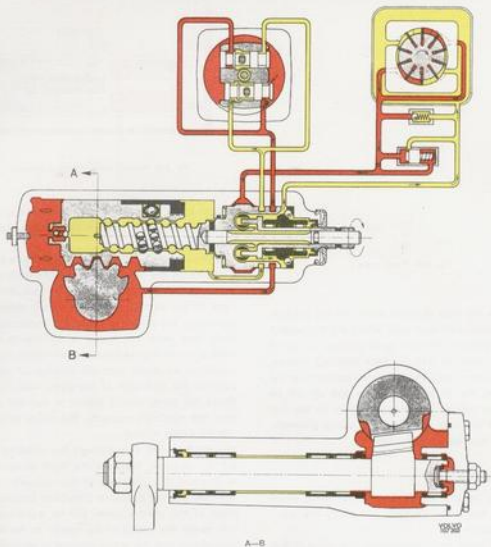

Fig. 6-46. Function, right-hand turn
The pitman arm shaft (20) is journaled in the steering housing and side cover by means of needle bearings, see Fig. 6-46. Sealing between the valve housing and the upper section of the housing as well as between the intermediate piece and steering cam is catered for by O-rings and plastic rings. The steering gear reduction ratio is 15.7:1.
Turning the steering wheel to the right (see Fig. 6-46) will screw the piston (2) to the right on the figure. The control valve (10) is displaced to the right and permits oil under pressure to pass to the annular groove (18) of the valve housing and from there on to the left-hand side of the cylinder. Oil under pressure also flows to the return groove (7) which, however, is closed so that oil pressure on the left-hand side of the operating piston (2) rises and facilitates the turning of the lever shaft. Oil at the right-hand section of the cylinder is pressed by the piston via the annular groove (19) through the return groove (6) of the control valve (10) back to the oil reservoir (13).
The space in the intermediate piece is oval, see Fig. 6-46. This permits the area between the rotor, the wall of the intermediate piece and two of the vanes to alter when the rotor rotates. When a couple of vanes are moved from the suction side to the pres-